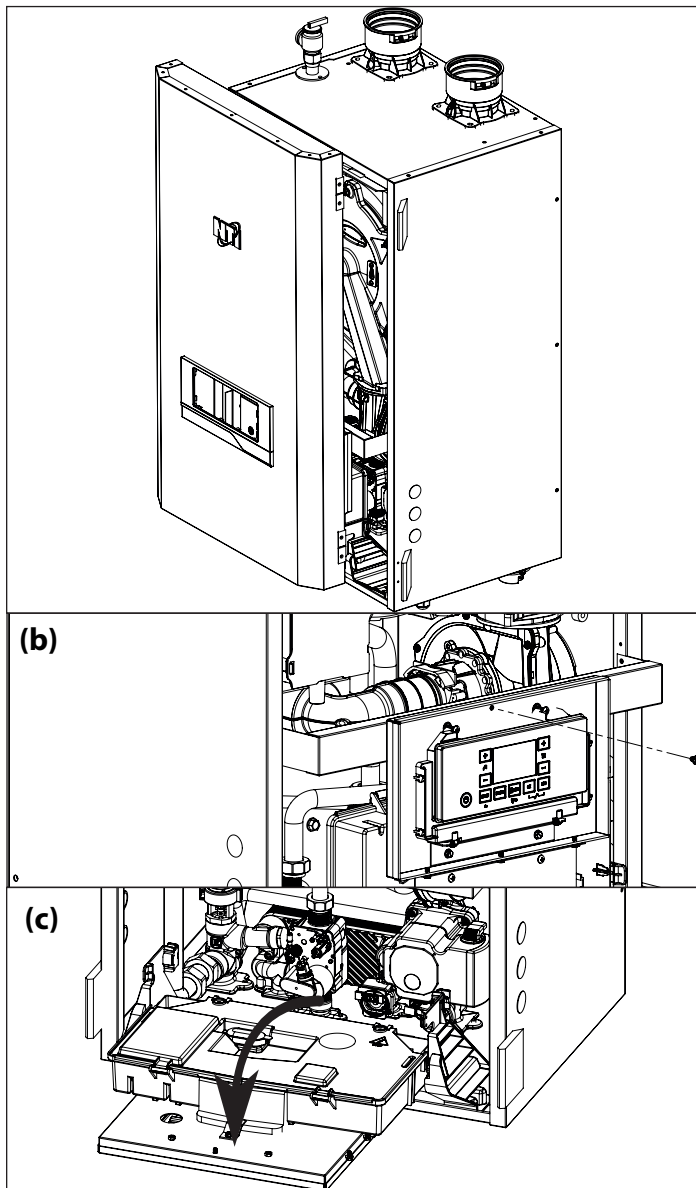

Figure 84 - Removing the Cover and Control Panel Housing
See Figure 84 to access the interior of the boiler:
- Remove the front panel as shown in Figure 84.